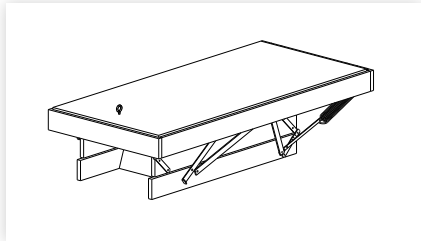

figure 6
3. Turn the ladder over so the lid is facing up. Fit the screw eye 100mm in from the opening end, midway across the width (figure 6).